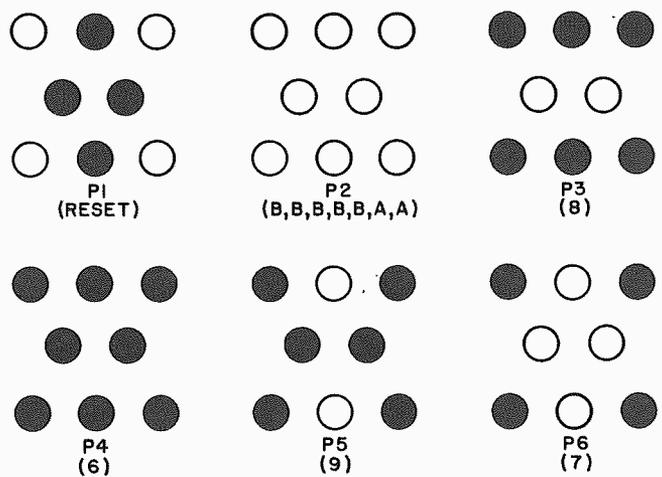

Fig. 5. Pattern after reset is P1. To get P2, press switches as shown. Other patterns take indicated number of switch operations.
**Testing.** Turning on the power switch should cause a random pattern to appear on the LED display. Pressing the reset switch should result in the P1 pattern of Fig. 5. If it doesn't, check the reset wiring and voltage connections. After obtaining the P1 pattern, press switches A, B, and C one at a time to verify that all flip-flops are being triggered properly as indicated in Fig. 3. Check signals and wiring for any that fail to operate properly. If the signals to a flip-flop are correct but it still fails to trigger, replace the chip.
**Use.** Figure 5 shows how Flip is used to solve puzzles. Pressing reset switch S4 provides the pattern of lights shown at P1. As a sample problem, try to get from pattern P1 to pattern P2 by pressing one or the other of the input switches just 7 times. The other patterns in Fig. 5 can be obtained with the indicated number of switch operations.